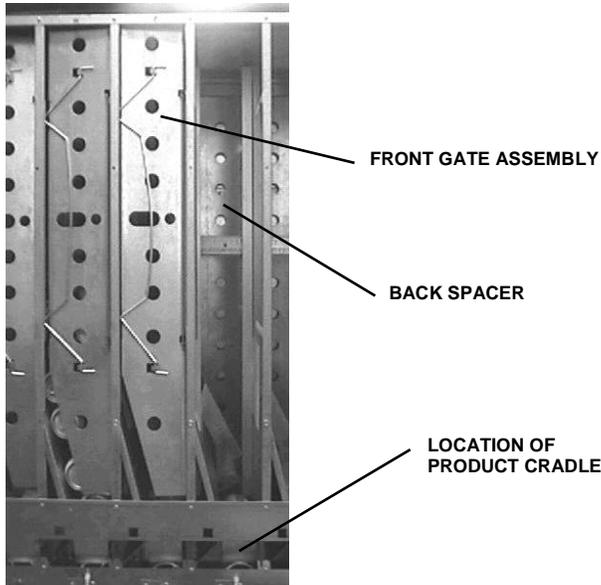

Figure 8. Bottle/Can Product Area.
9. Install auger assembly furnished as part of the conversion kit, making sure the motor coupling properly engages the motor and is securely snapped over the vertical rail (see Figure 8) or retaining rib on the tray.
9. Install new auger assemblies furnished in conversion kit, making sure the motor couplings properly engage with the motor and are securely snapped over the vertical rail (see Figure 8) or retaining rib on the tray.